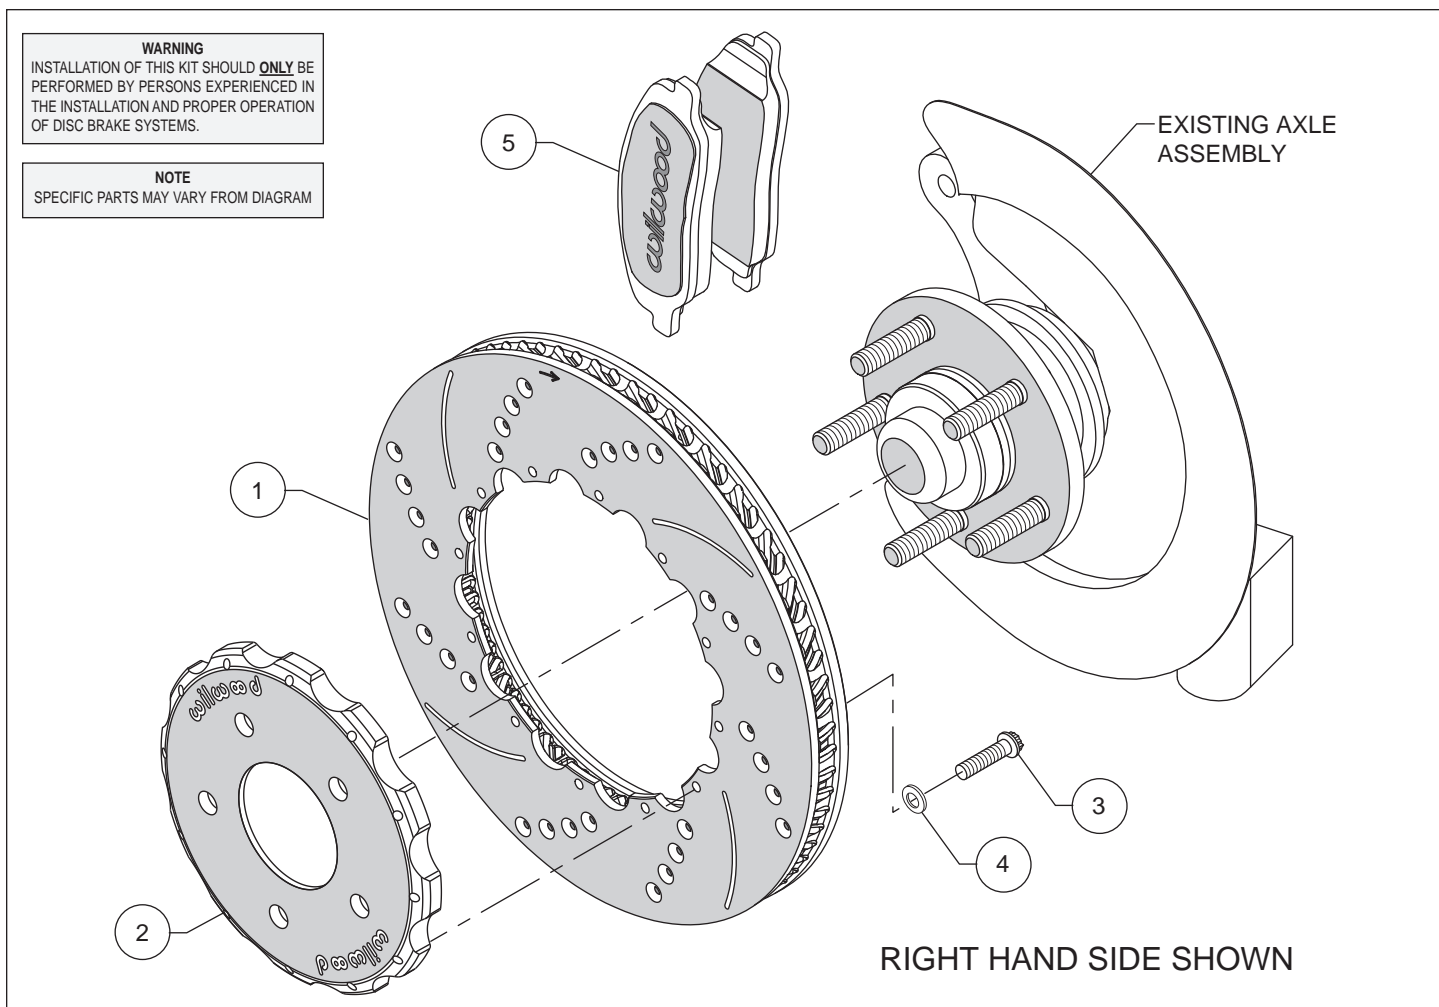
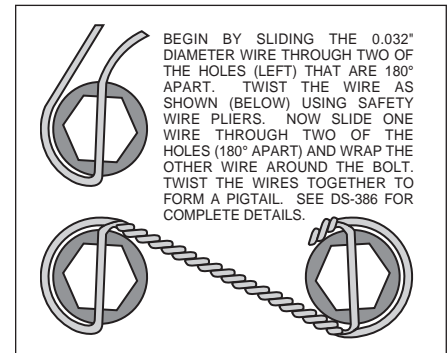

Figure 1. Typical Installation Configuration
Figure 2. Safety Wire Diagram
### Assembly Instructions (numbers in parenthesis refer to the parts list and Figure 1 on the preceding page):
- Orient the rotor (1) and the hat (2) as shown in Figure 1. Attach rotor to hat using bolts (3) and washers (4). Using an alternating sequence, apply red *Loctite*® 271 to the threads, and torque to 155 **in-lbs**. For an added measure of security, the bolts may be safety wired using standard 0.032 inch diameter stainless steel safety wire as shown in Figure 2. Please refer to Wilwood's data sheet DS-386 (available at [www.wilwood.com/Pdf/DataSheets/ds386.pdf](http://www.wilwood.com/Pdf/DataSheets/ds386.pdf)) for complete safety wire installation instructions.
- Remove the OE pads from the caliper and insert the Wilwood brake pads (5) into the caliper, with the friction material facing the rotor.